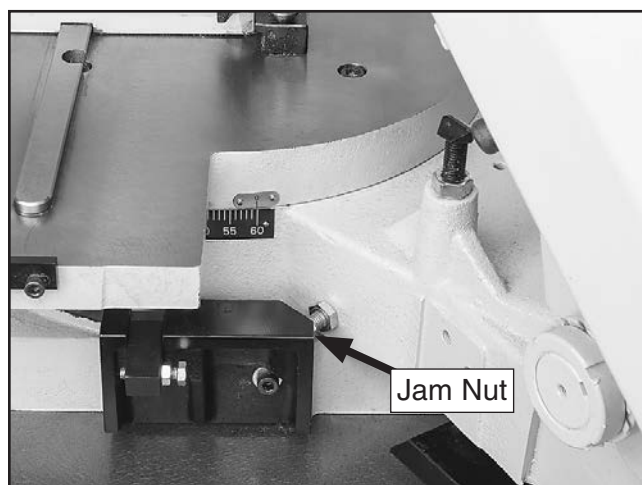

Figure 101. Location of 60° stop bolt jam nut (left 60° stop shown).
- If square *does not* fit snugly against outer fixed jaw and blade, loosen jam nut on 60° stop (see **Figure 101**). Thread stop bolt in or out as necessary until square fits snugly against outer fixed jaw and blade while base contacts stop bolt.